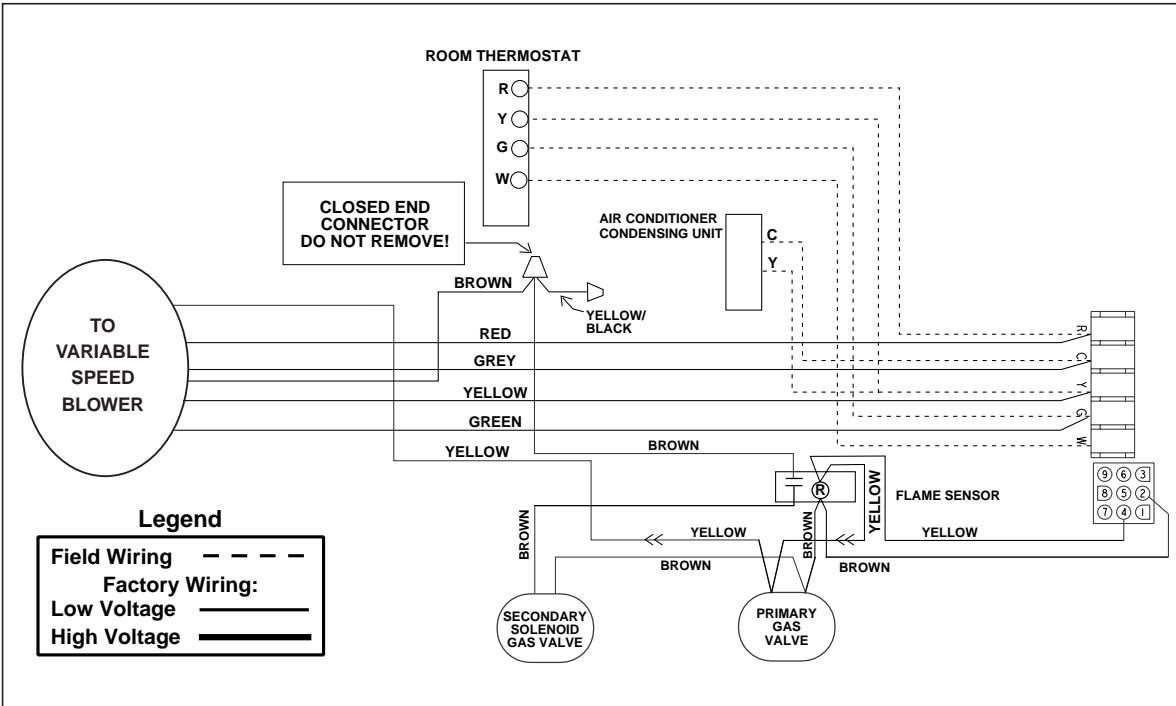

Figure 16c. Low Fire Only Configuration
3. *Low fire only configuration* – For this installation, the secondary gas valve is disconnected (See Figure 16c). This defeats the staging feature and the furnace operates on low fire only. All but two of the burners will operate on a call for heat and the variable speed blower will operate at a lower speed.